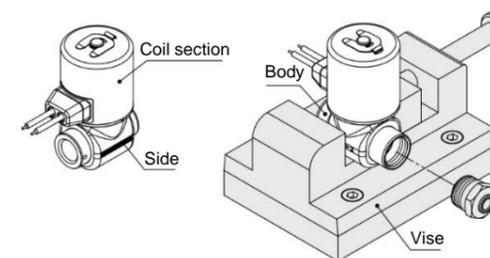

Figure 1. Example of clamp area of valve
- When connecting piping/fitting to the valve, clamp the side of the body with a vise, etc. See figure 1.